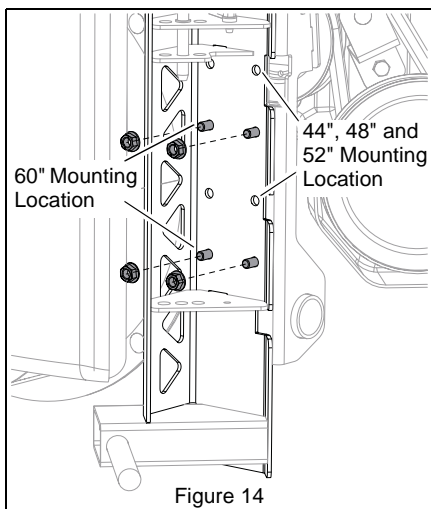

Figure 14
3. For 44, 48 and 52" decks, remove four hex nuts and round head square neck bolts securing mounting plate to blower assembly. Reinstall hardware in the other mounting holes. See Figure 14 for correct mounting position.